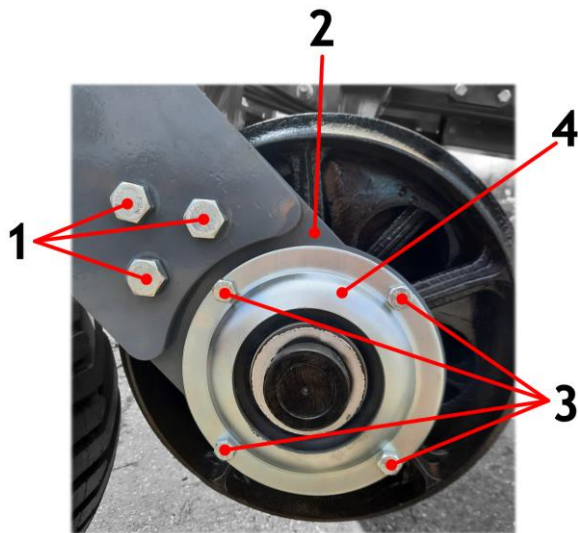

Figure 37 Components of the working roller bearing assembly - MCB SWING
3. Unscrew the bolts securing the bearings to the clamp on both sides of the roller (Fig. 37, item 1).
5. Loosen the grub screws on the locking ring (Fig. 37, item 5) on the bearing to be replaced.
8. Unscrew the four bolts securing the bearing to the mounting plate (Fig. 37, item 3).
9. Remove the old bearing (Fig. 37, item 4) and replace it with a new one (see Spare Parts for the Roller - section 10).
12. Fasten the bearing to the mounting plate using the screws (Fig. 37, item 3).
15. Move the roller between the side plates of the bearing clamp, position it correctly, and fasten it using the designated bolts (Fig. 37, item 1).
1. Unscrew the bolts securing the bearings to the clamps on each side of the roller (Fig. 37, item 1).
3. Loosen the headless screws on the retaining ring (Fig. 37, item 5) at the bearing to be replaced.
13. Fasten the bearing together with the mounting plate using bolts (Fig. 37, item 3).
16. Move the roller between the bearing clamps, position it correctly, and tighten the dedicated bolts (Fig. 37, item 1).